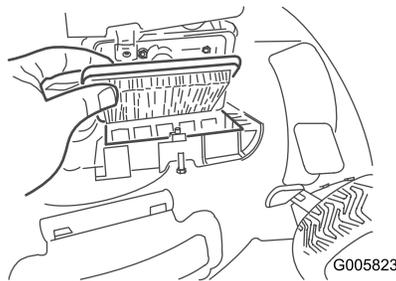

Figure 16
2. Replace the air filter (Figure 16).